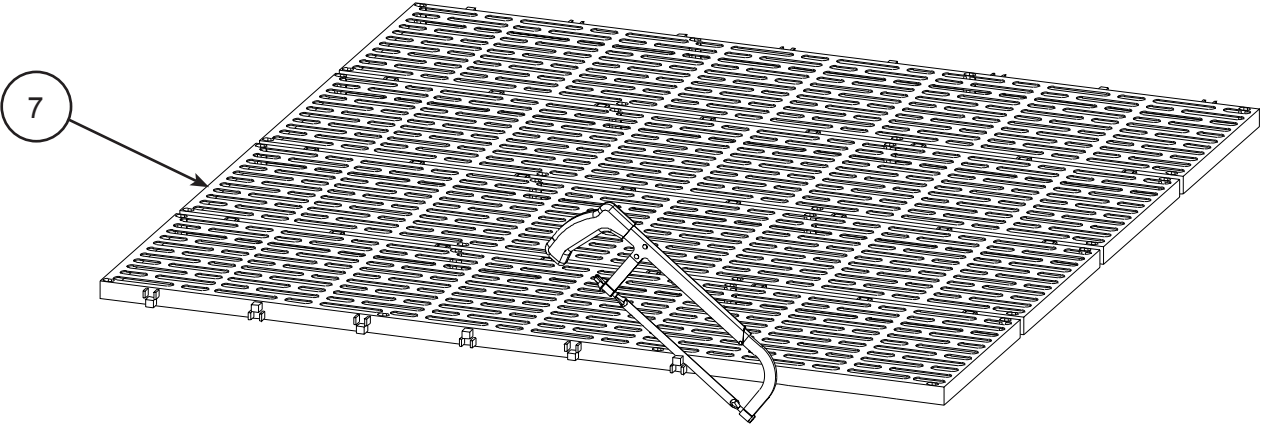

Figure 2.
- **Step 2:** Once handrails are attached, remove the interlocking tabs on only one end of the first and last panel of ThruFlow™ Decking (Item 7), (Figure 2). All other interlocking tabs not located on the end of the gangway are to be left alone. This can be done with either a traditional or electric saw.